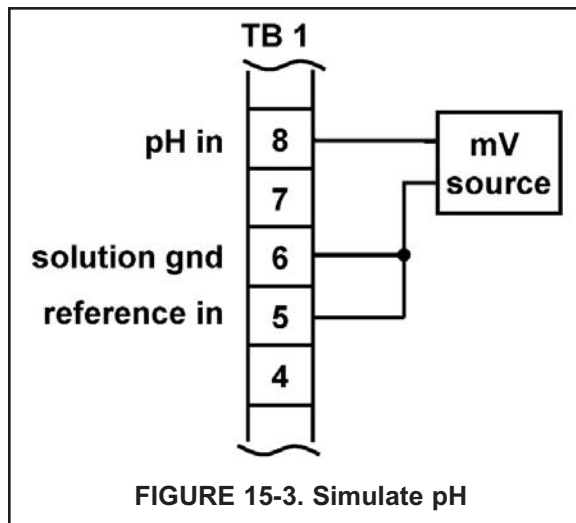

FIGURE 15-3. Simulate pH
4. If a standard millivolt source is available, disconnect the jumper wire between the pH IN and the REFERENCE IN terminals and connect the voltage source as shown in Figure 15-3.
The procedure is the same as described in Section 15.11.2. Keep the connections between the analyzer and the junction box in place. Disconnect the sensor at the sensor side of the junction box and connect the voltage source to the sensor side of the junction box. See Figure 15-3.